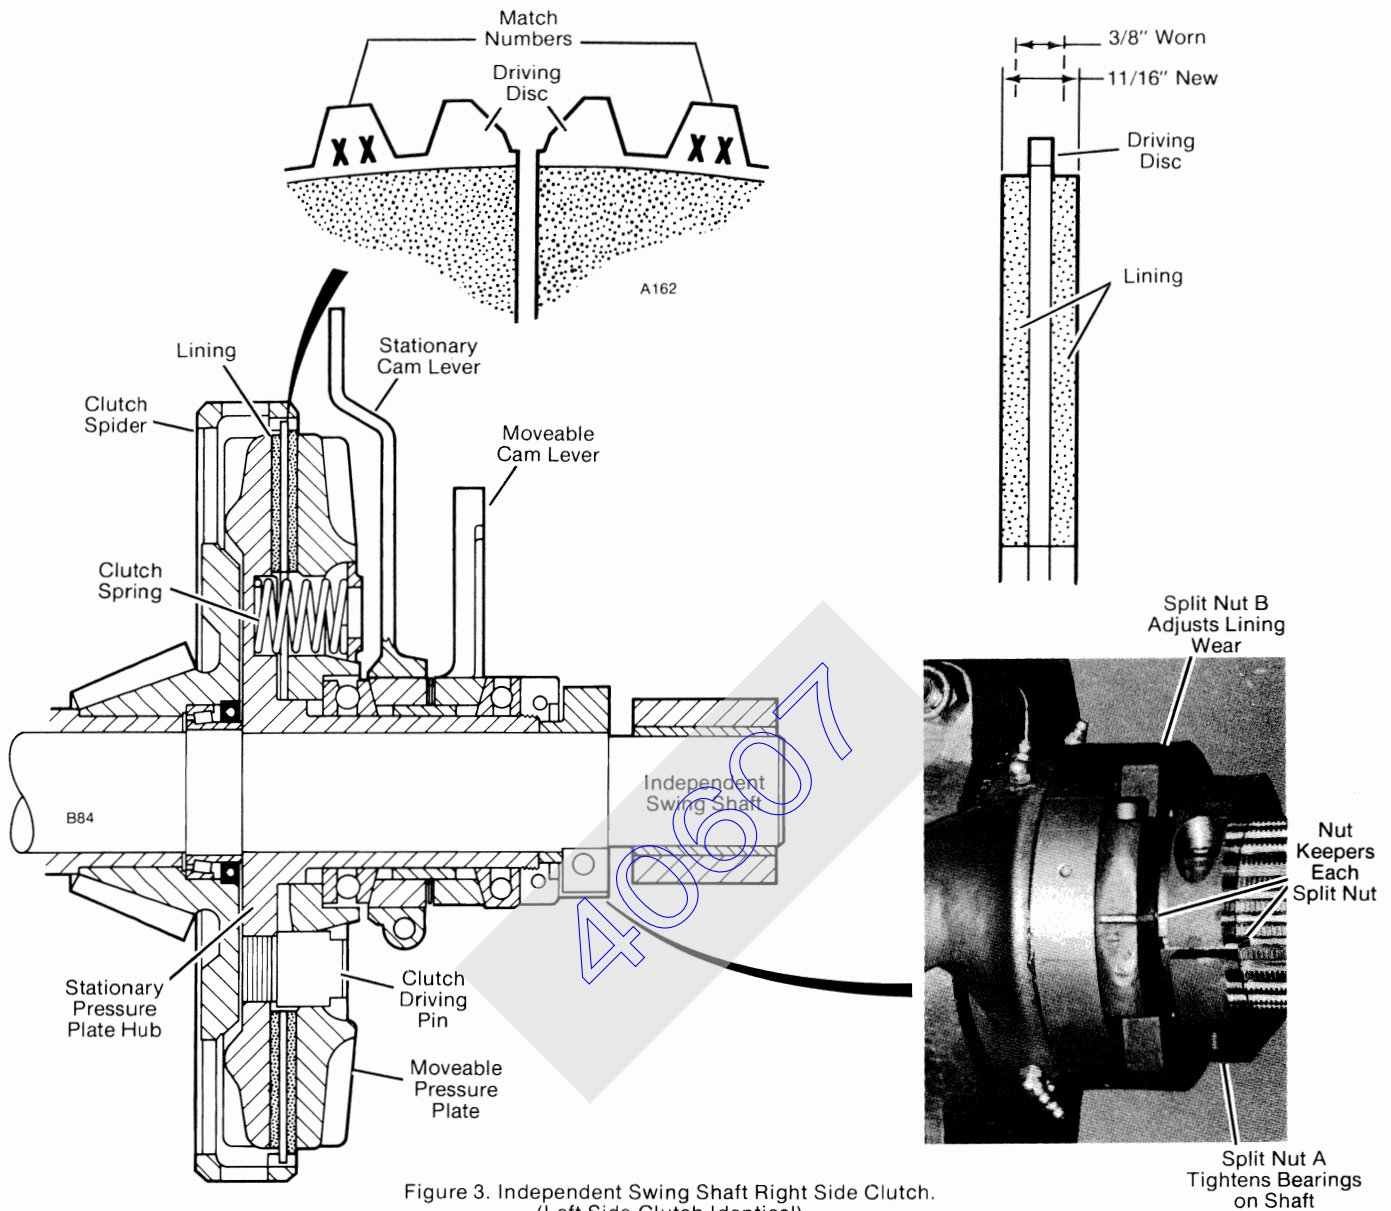

Figure 3. Independent Swing Shaft Right Side Clutch.
2. Check clutch-disc thickness at both clutches. Replace both halves of the clutch disc when the overall thickness of the disc has decreased to 3/8 inch as shown in Figure 3.
IMPORTANT Only use Manitowoc original equipment clutch discs. Other clutch discs may not provide proper clutch torque. Halves of new clutch disc must match; check that number stamped in end of each disc half is same (see Figure 3).
3. Once a year or every 4000 hours, check that both split nuts (A, Figure 3) are tight. Tighten as follows:
- a) Remove the nut keeper from split nut (A, Figure 3).
- d) Remove the nut keeper from split nut (B, Figure 3). Reinstall the allenhead capscrew so the split nut